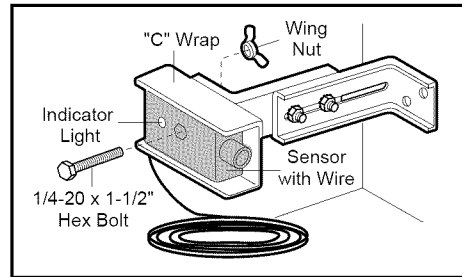

Figure 5
- Center each sensor unit in a "C"- wrap with lenses pointing toward each other across the door (see Figure 5).